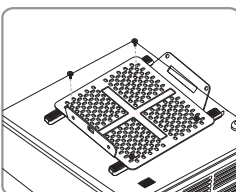

Figure 13
2. Adjust the fixer⑩ a of multifunctional arm for aligning the install hole of low bracket, and then fasten the screws. Figure 13
3. Install ornament board⑩ b for multifunctional arm.